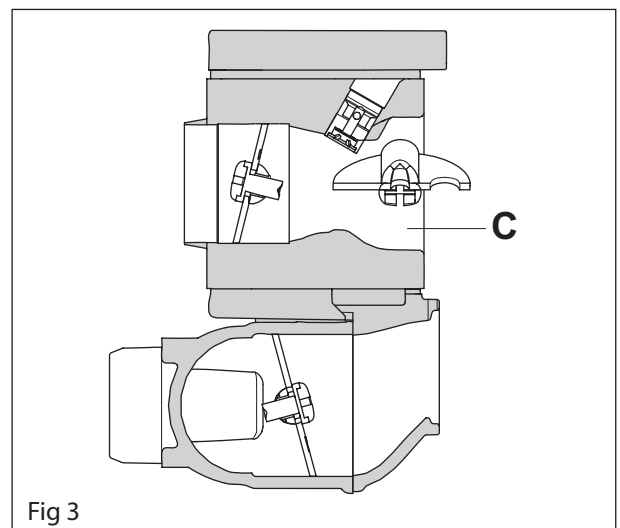

Fig 3
The mixing unit (C) houses the choke, the throttle valve and the diffuser jets. Here air is mixed with the fuel to give a fuel/air mixture that can be ignited by the ignition spark. See figure 3.